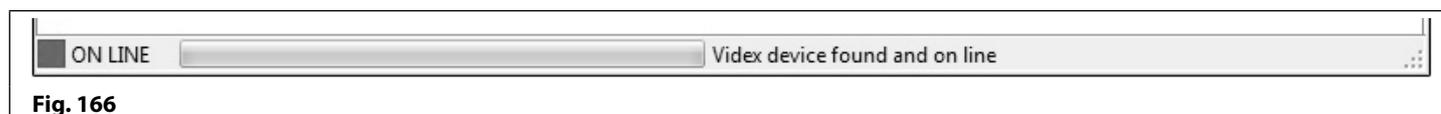

Fig. 166
- **ON LINE:** see **Fig.166**, this indicates that the GSM module has been detected by the GSMSK software and is currently connected.
For checking the current firmware stored in the GSM module or checking the date and time setting ensure that the connection status of the GSMSK software is showing as **ON LINE** (refer to **Fig.166** and follow the notes **GSM panel detection** and **Connecting the Software to the GSM module (ON LINE)** on page 16). Also check the physical connection between the PC and GSM module. In the case of the GSM4K series, the Art.2270 GSM module and digital GSM this can either be a connection by USB or by RS485 connection (refer to connection diagrams on pages 11 - 14, **Fig.22 - Fig.28**).
Check the power connections on the GSM module (12Vdc) and the output of the power supply is giving out 12Vdc. If necessary re-terminate these connections at each end and secure them firmly back into the terminals. Also refer to **Fig.166** and follow the notes **GSM panel detection** and **Connecting the Software to the GSM module (ON LINE)** on page 16. Once the GSM module has power and the GSMSK software is showing the connection status as back **ON LINE**, try another download.